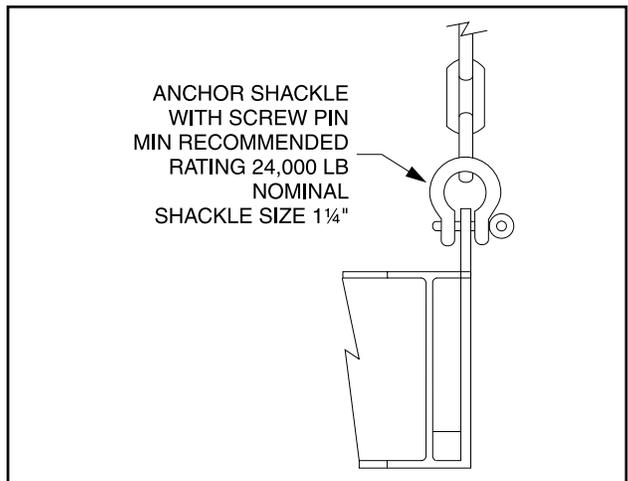

Figure 5
3. This unit shall be lifted using the four lifting lugs welded to the base as shown above. Shackles and screw pins shall be provided (by others) as shown in Figure 5 as minimum.